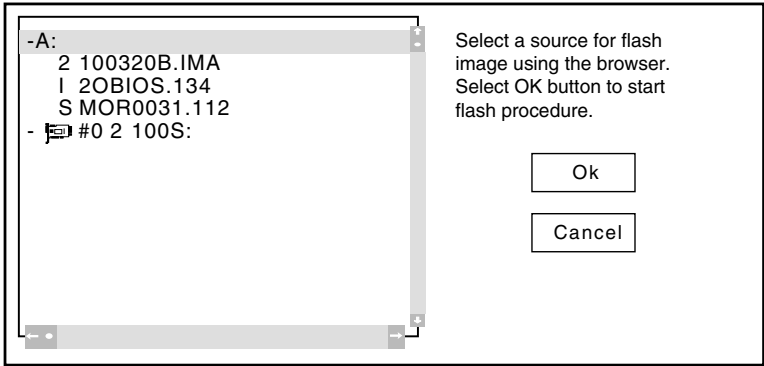

Figure 2-19. Source File Browser Window
- 4 Select **Action > Flash HBA**. The Source File Browser window appears, as shown in Figure 2-19.